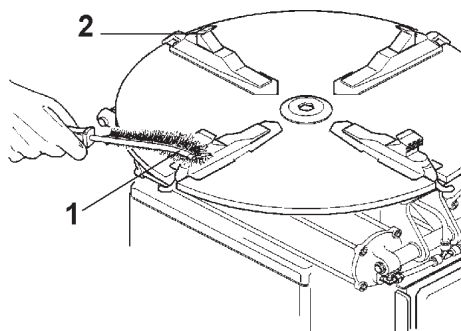

Fig. 6.0-2
**C.** Weekly clean the teeth of the clamps (1) with a wire brush, check the nylon clamping jaw insert and (2) replace if worn (Fig. 6.0-2).